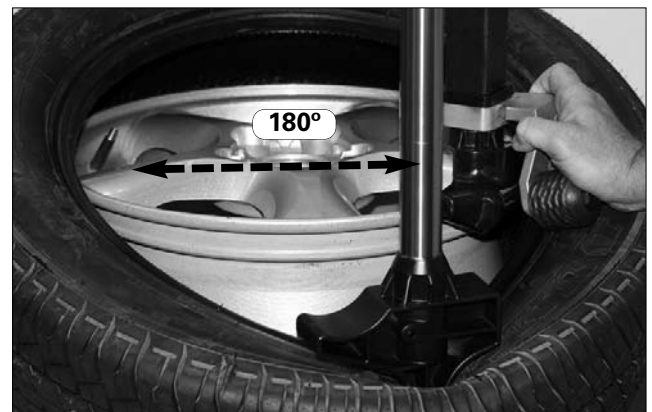

Figure 3 - Position Valve Stem 180° Ahead of Duckhead
3. For top bead installation, rotate table top until the valve stem on wheel is 180 degrees ahead of the duckhead (9 o'clock position). Attach duckhead roller assembly to the duckhead using RoboArm™ to assist (fig 3).